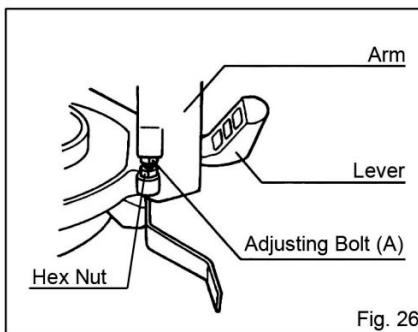

Fig. 26
Loosen the hex nut and turn the adjusting bolt (A) on the right side of the turn base 2-3 turns clockwise to tilt the blade to the right. (Fig. 26)